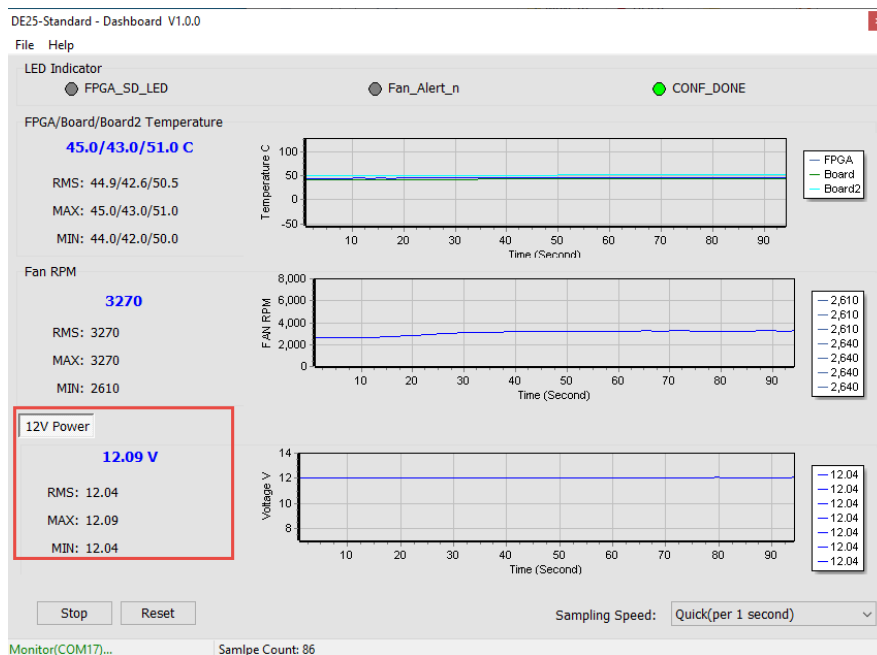

Figure 4-12 Power Monitor Section
- **12V Power monitor:** This displays the real-time voltage on the 12V Power input and consumption current on the DE25-Standard, as shown in **Figure 4-12**.